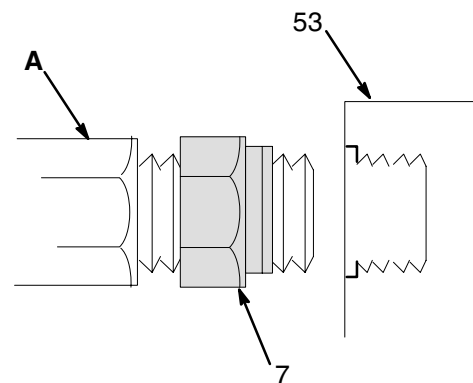

Fig. 1
NOTE: A 1 in. npt seal (7) is supplied in a plastic bag with the motor. Thread the seal onto the threads of your hydraulic return line fitting (A). Thread the fitting into the upper housing (53) and torque as needed. Then tighten the seal (7) against the motor to provide a secure seal. See Fig. 1.